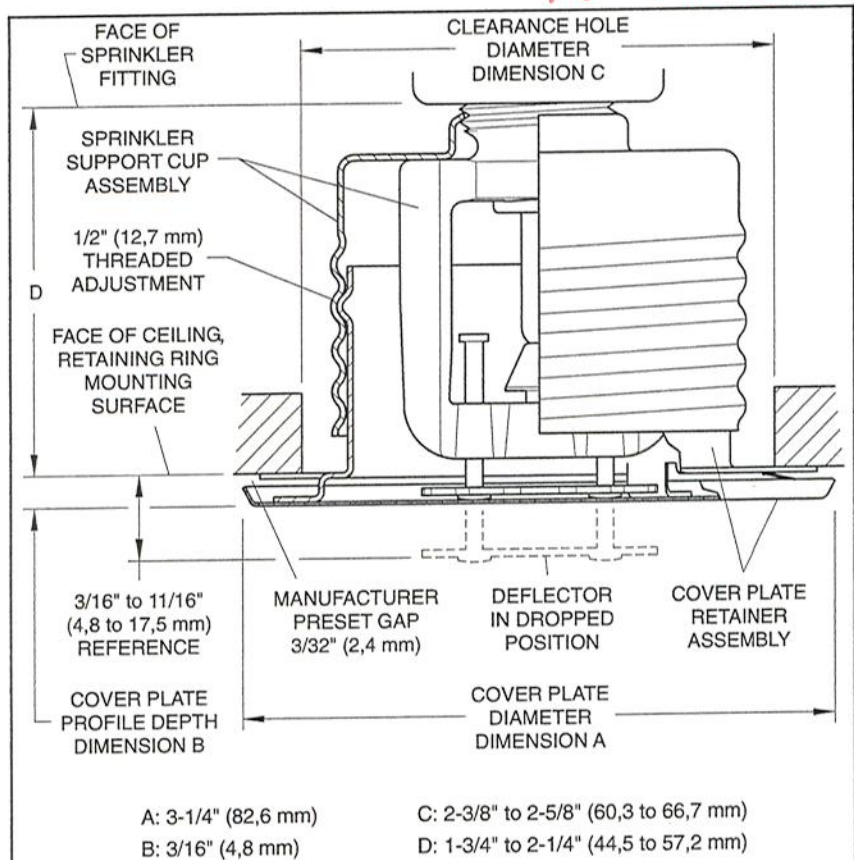

FIGURE 2
Step 8. Screw on the Cover Plate/Retainer Assembly until the Retainer - Figure 2 (or Air and Dust Seal - Figure 5) contacts with the ceiling. Do not continue to screw on the Cover Plate/Retainer Assembly such that it lifts a ceiling panel out of its normal position. If the Cover Plate/Retainer Assembly cannot be engaged with the Support Cup or the Cover Plate/Retainer Assembly cannot be engaged sufficiently to contact the ceiling, the Sprinkler Fitting must be repositioned.
When properly installed, there is a nominal 3/32 inch (2,4 mm) air gap between the lip of the Cover Plate and the ceiling, as shown in Figure 2. This air gap is necessary for proper operation of the sprinkler. If the ceiling is to be repainted after the installation of the Sprinkler, care must be exercised to ensure that the new paint does NOT seal off any of the air gap.